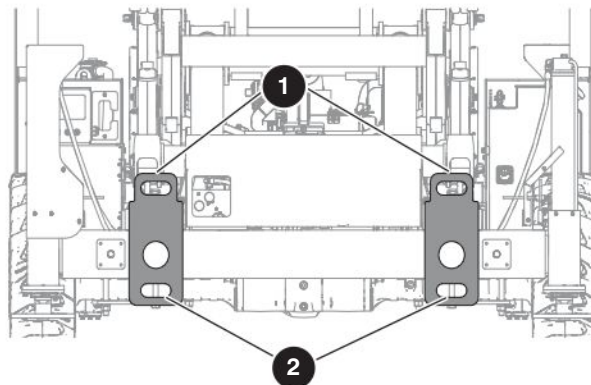
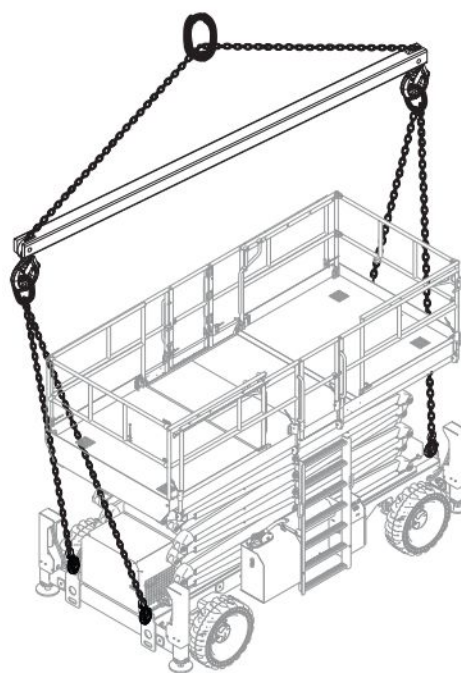

Figure 08 Lift and tie-down points
Figure 09 Appropriate method to hoist
- Attach the rigging to all **four lift points 1**. Refer to Figure 08 and Figure 09.
When you transport the MEWP, it must be attached to a truck or trailer deck. Use the available tie-down points ② to attach the MEWP. Refer to Figure 08 If you do not obey, there is a risk of death or serious injury.
- Tie-down the MEWP to the transport vehicle using the four tie-down points ②. Refer to Figure 08.